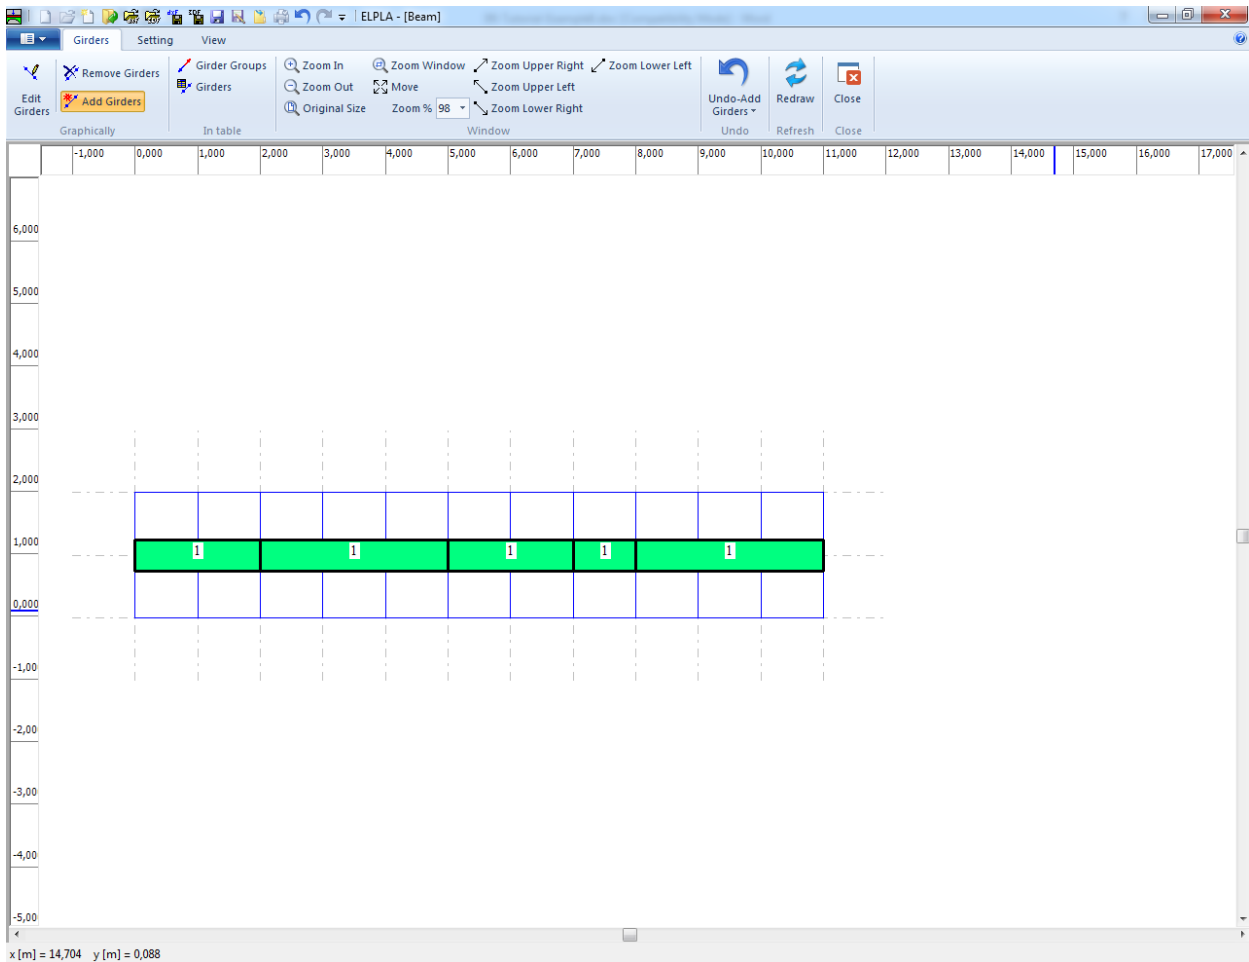

Figure 8.17 Girders
Repeat the previous steps to add the remaining girders on the net. After you have completed the definition of all girders, the screen should look like the following Figure 8.17.
- Choose "Save" command from "File" menu in Figure 8.17 to save the data of girders
- Choose "Close" command from "File" menu in Figure 8.17 to close the "Girders" Window and return to *ELPLA* main window.